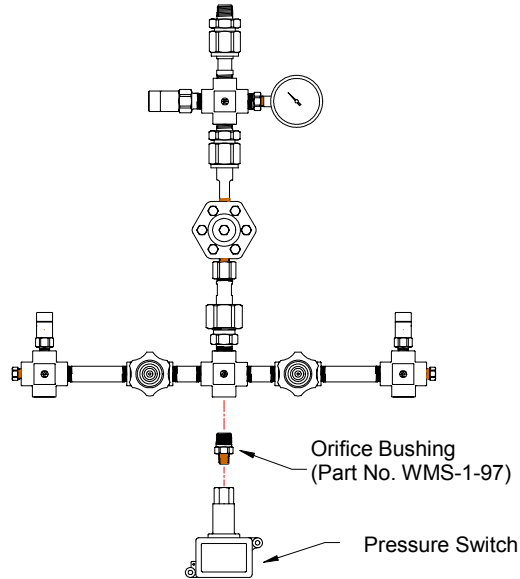

FIGURE 6
1. Install an orifice bushing into the 1/2 NPT cross (Figure 6).
2. Install the pressure switch onto the orifice bushing (Figure 6)